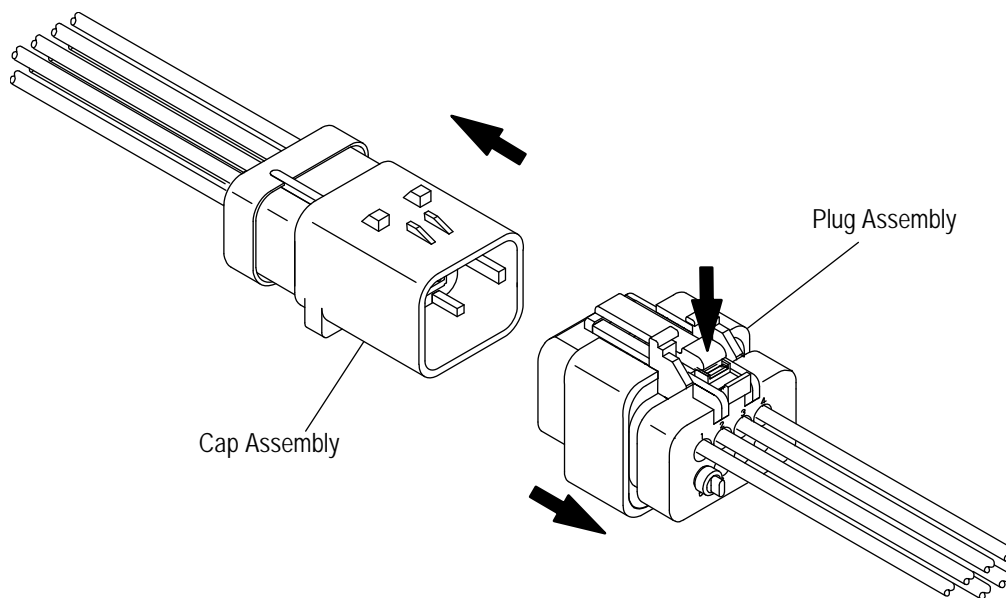

Figure 9
2. Depress the end of the connector latch pad near the rear (wire end) of the plug housing. Continue to squeeze the latch pad and pull on the rear housing section to separate the mated connector assembly. See Figure 9.